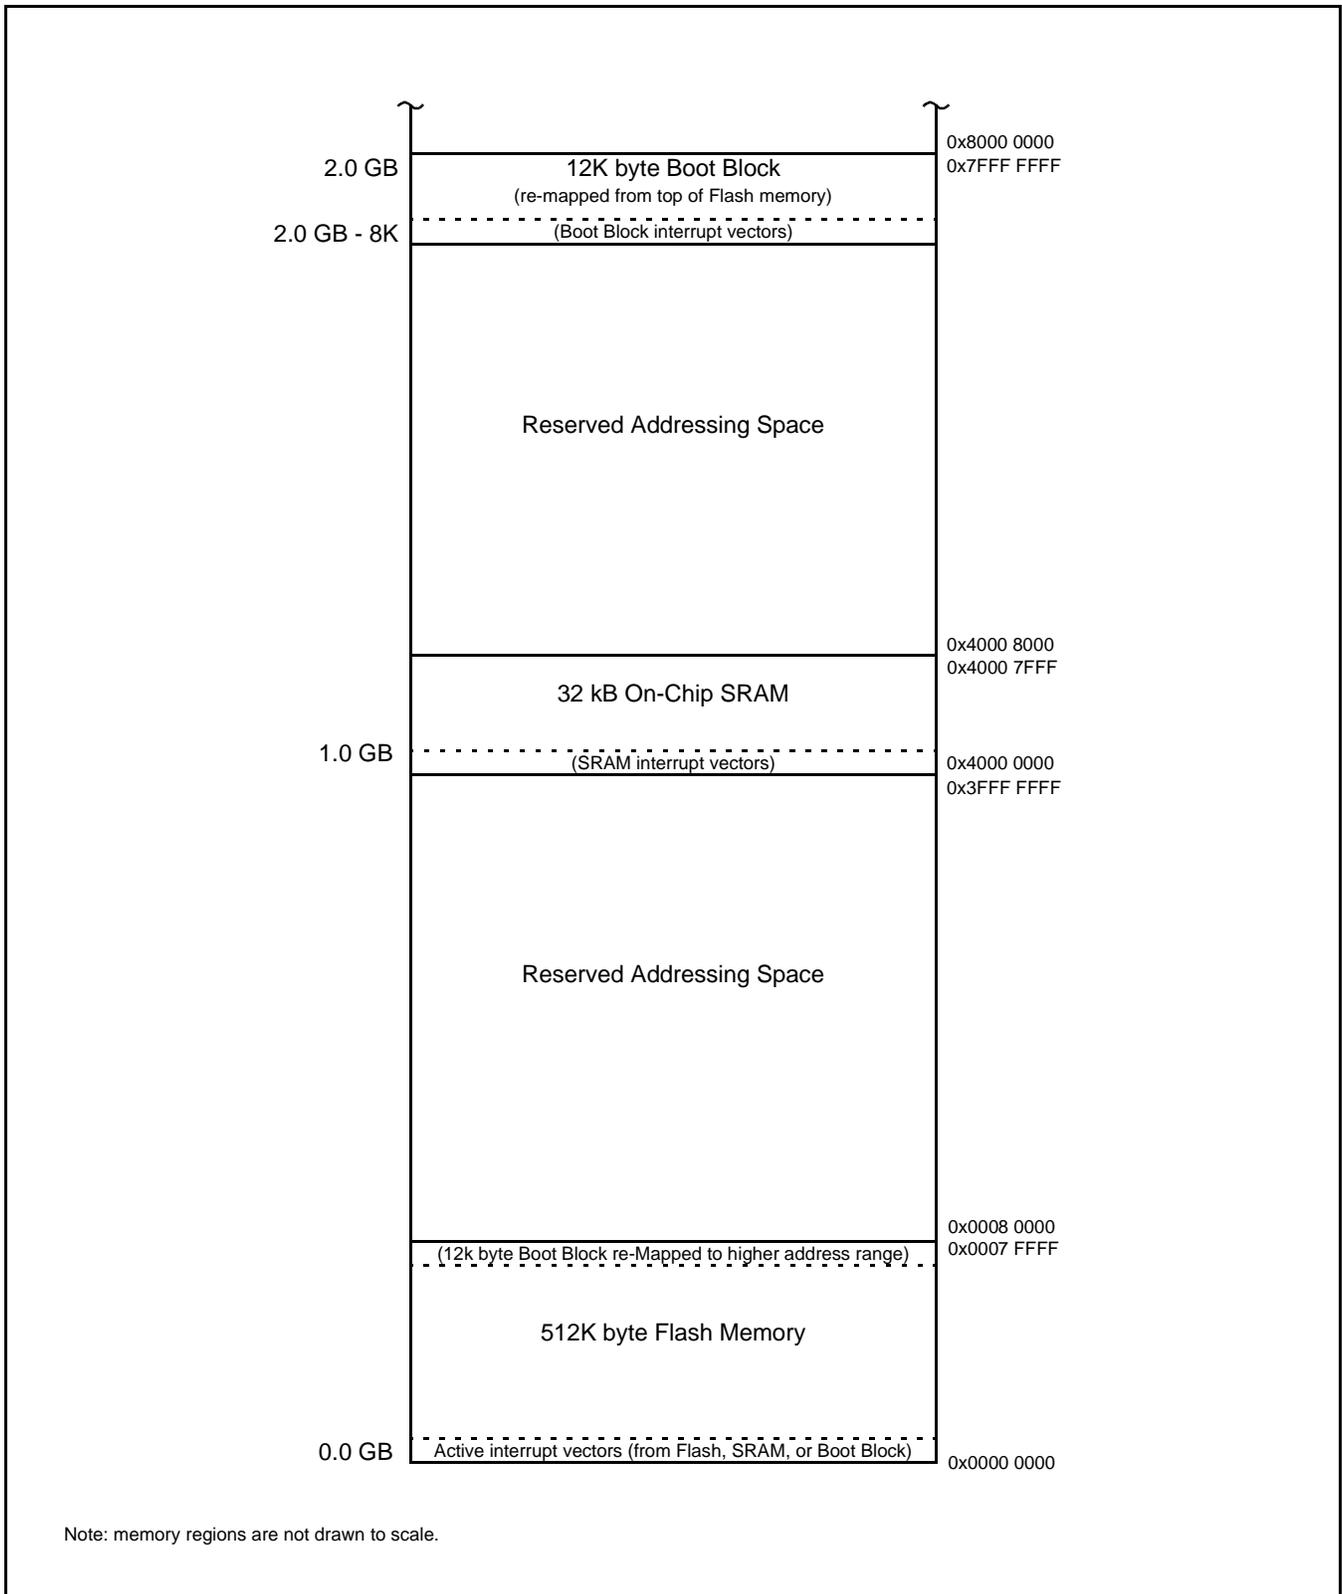

Figure 6: Map of lower memory is showing re-mapped and re-mappable areas (LPC2138 with 512 kB Flash).
In order to allow for compatibility with future derivatives, the entire Boot Block is mapped to the top of the on-chip memory space. In this manner, the use of larger or smaller flash modules will not require changing the location of the Boot Block (which would require changing the Boot Loader code itself) or changing the mapping of the Boot Block interrupt vectors. Memory spaces other than the interrupt vectors remain in fixed locations. Figure 6 shows the on-chip memory mapping in the modes defined above.
- Address space between On-Chip Non-Volatile Memory and On-Chip SRAM, labelled "Reserved Addressing Space" in Figure 2 and Figure 6. For 32 kB Flash device this is memory address range from 0x0000 8000 to 0x3FFF FFFF, for 64 kB Flash device this is memory address range from 0x0001 0000 to 0x3FFF FFFF, while for 512 kB Flash device this range is from 0x0008 0000 to 0x3FFF FFFF.